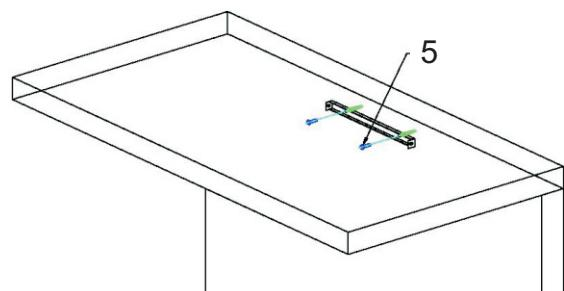

fig. 3
**Step four:** Mount the top chimney mounting bracket centering it above the hood. fig.3